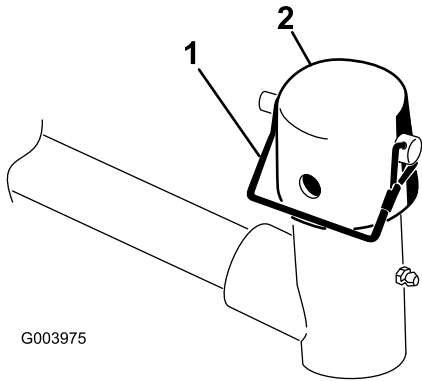

Figure 3
3. At each cutting unit lift arm, remove the lynch pin that secures the cap to the lift arm pivot yoke, and remove the cap (Figure 3).